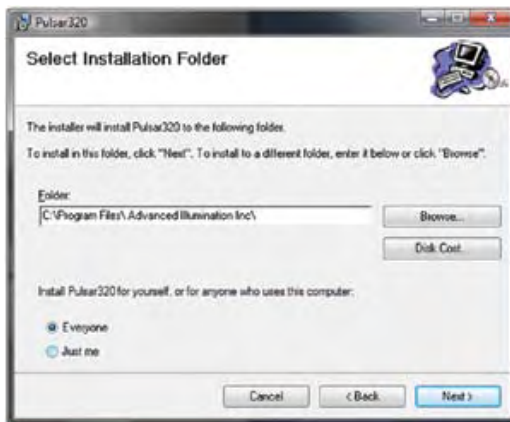

Figure 10B: Software Installation, Program Group
4. Select a Program Group or use the default (Advanced Illumination) and click Next. (See figure 10B.)